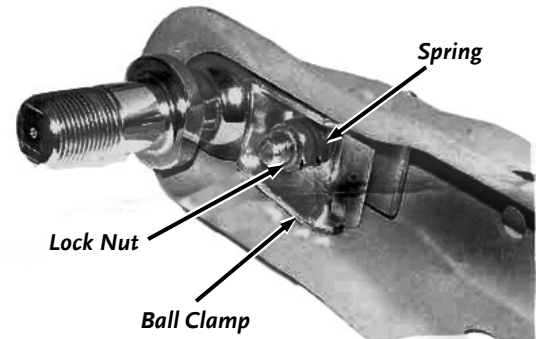

Figure 35
- With the proper size ball in the socket of the hitch coupler, close the latch of the coupler completely (**Figure 35**). Verify that the locking trigger is properly engaged in its detent.